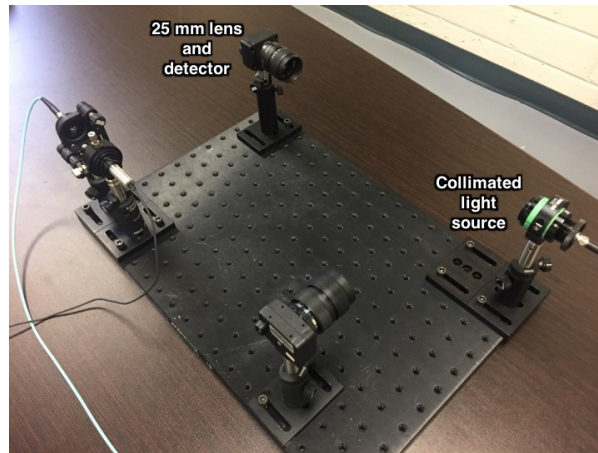

Fig. 4.— Initial setup of the future Shack-Hartmann wavefront sensor.
**Experiment 1:** You have a 25 mm lens in a C-mount attached to a CMOS detector, and a collimated light source (see Figure 4.) The goal of this experiment is to verify the expected displacement of the spot image on the detector given a measured change in the angle of the input phase front.